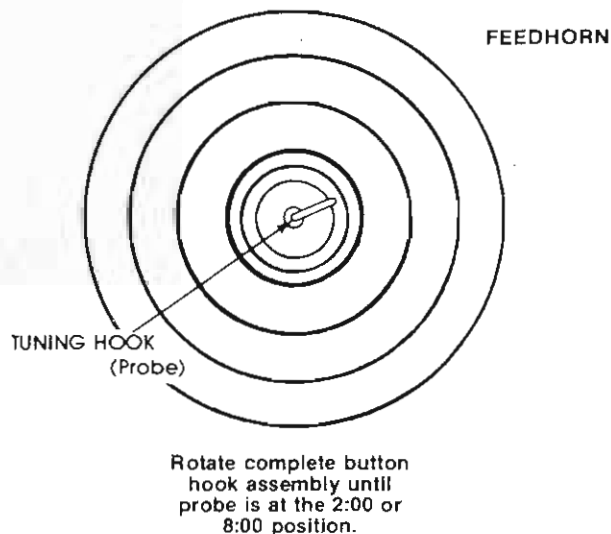
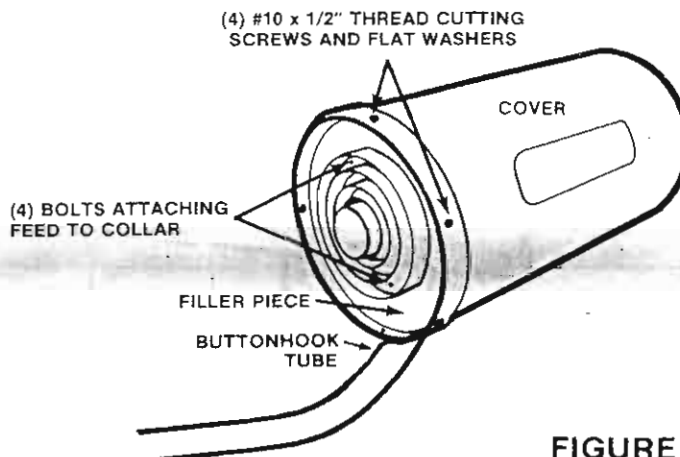

FIGURE 9
FIGURE 10
**STEP 3.** Stand in back of dish and look into feedhorn. Locate the small tuning probe at back of cavity. Loosen clamp holding buttonhook assembly in center hub and **rotate complete assembly** until probe is in 2:00 or 8:00 position. See figure 9. Cover should be in upright position as shown in figure 10. Tighten clamp holding buttonhook.